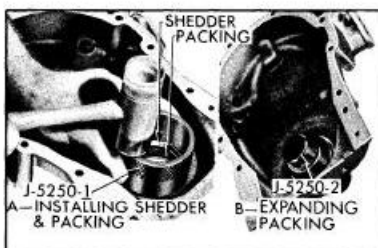

Figure 2-25—Installing Crankshaft Oil Seal
2. Work new packing into the shedder, then drive shedder into recess in timing chain cover, using Installer J-5250-1. See Figure 2-25.
3. Push Packing Expander J-5250-2 through the seal to expand the packing into place and size the opening for the crankshaft. See Figure 2-25. Apply a light coat of vaseline to the packing.